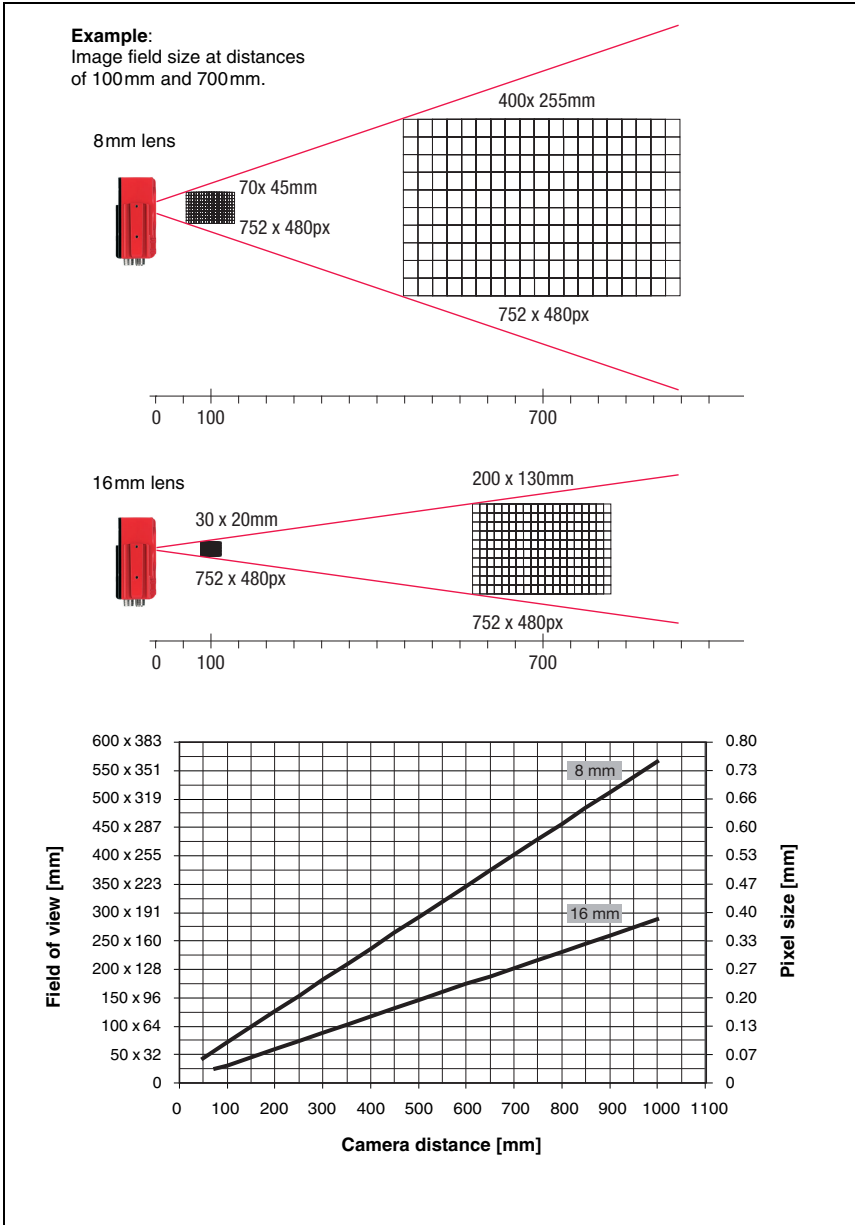
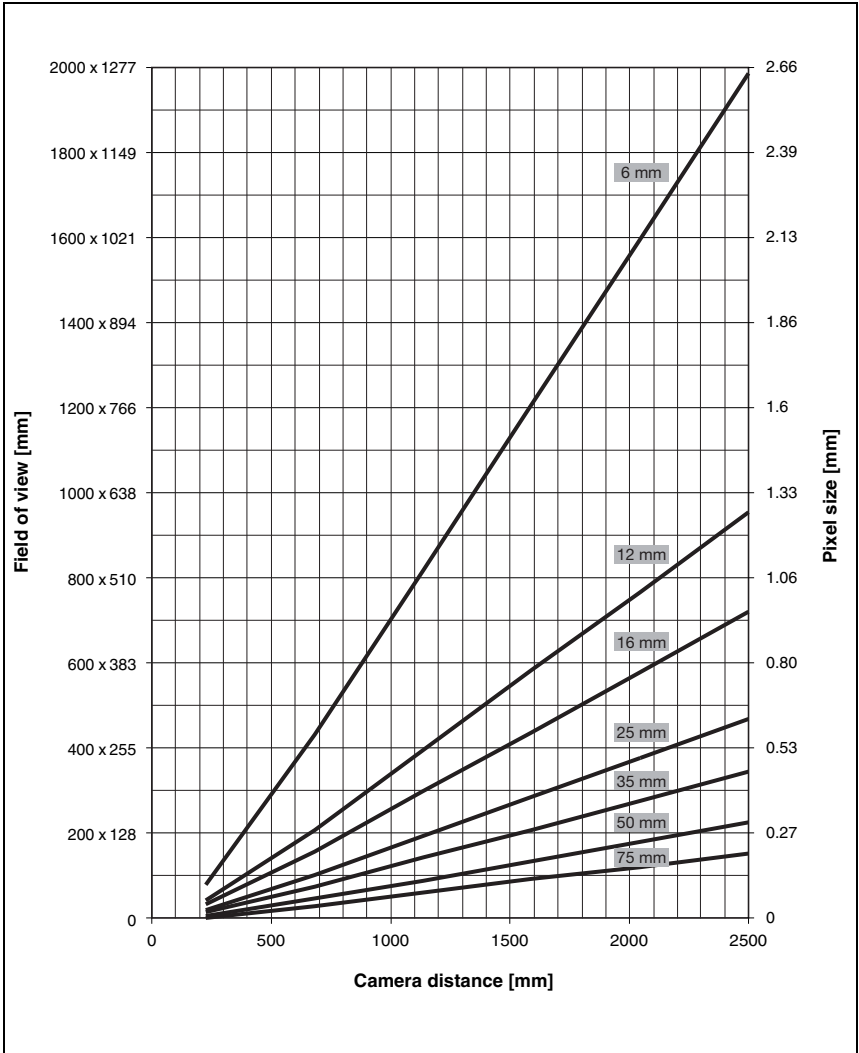

Figure 4.6: Camera distance / image field - standard devices
Figure 4.7: Camera distance / image field - device models for C-mount interchangeable lenses
- The camera distance which results from the respective field of view (see figure 4.6 on page 22 or figure 4.7 on page 23).
In figure 4.6 and figure 4.7, the principle relationship between camera distance and the resulting image field is represented for the C-mount device models.
The diagram in figure 4.6 shows the relationship between camera distance (= path from the front edge of the camera to the object) and image field for standard devices with 8mm and 16mm focal length. In figure 4.7, this relationship is represented for the C-mount device models.